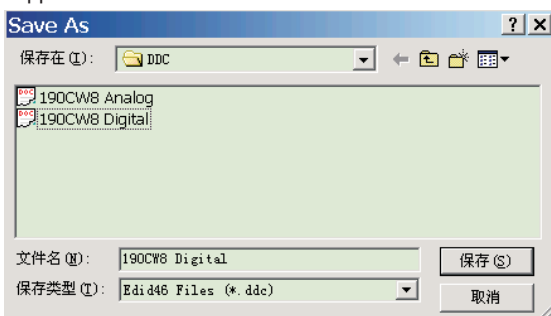

Fig.41
- Click (Save) icon (or click "file"-> "save as") from the tool bar and give a file name as shown in Fig. 41.